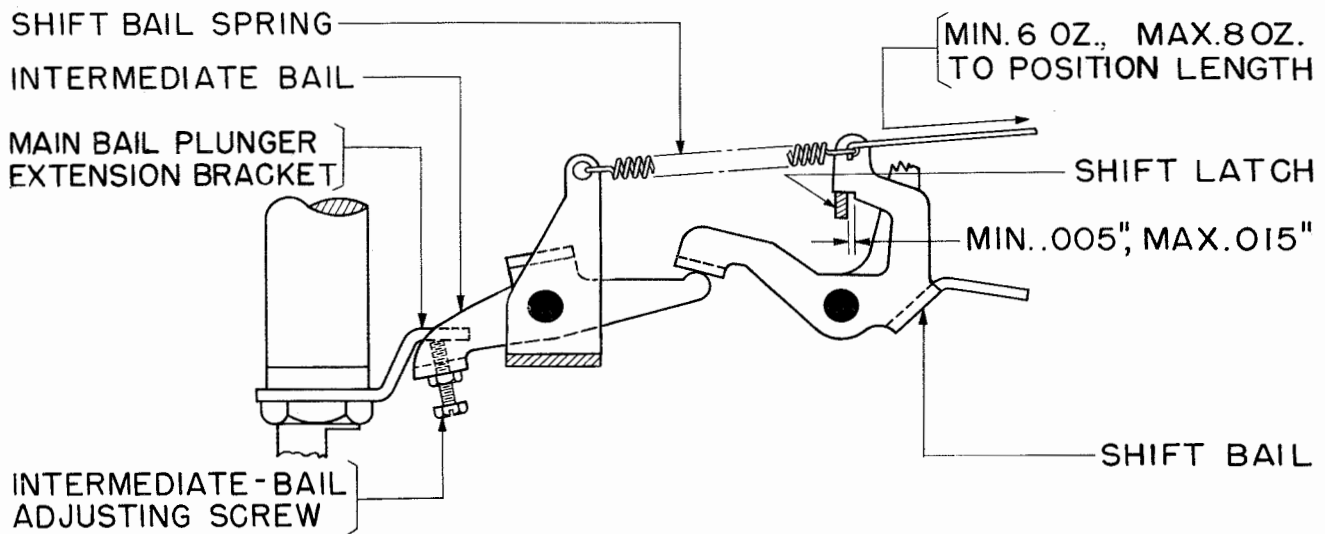

Figure 34
To Adjust: Loosen the mainbail-plunger extension-bracket locknut and reposition the bracket. See Figure 34.
2.50 Intermediate-bail Adjusting-screw: The shift bail shall overtravel the shift latch as indicated in Figure 34 with the main shaft in its stop position and the play in the shift latch taken up in a direction to make the clearance a minimum.
To Adjust: Loosen the intermediate-bail adjusting-screw locknut and position the screw. See Figure 34.
2.51 Shift-bail Spring: It shall require a pull as indicated in Figure 34 to pull the spring to position length with the main shaft in its stop position and the platen latched in the LTRS position.